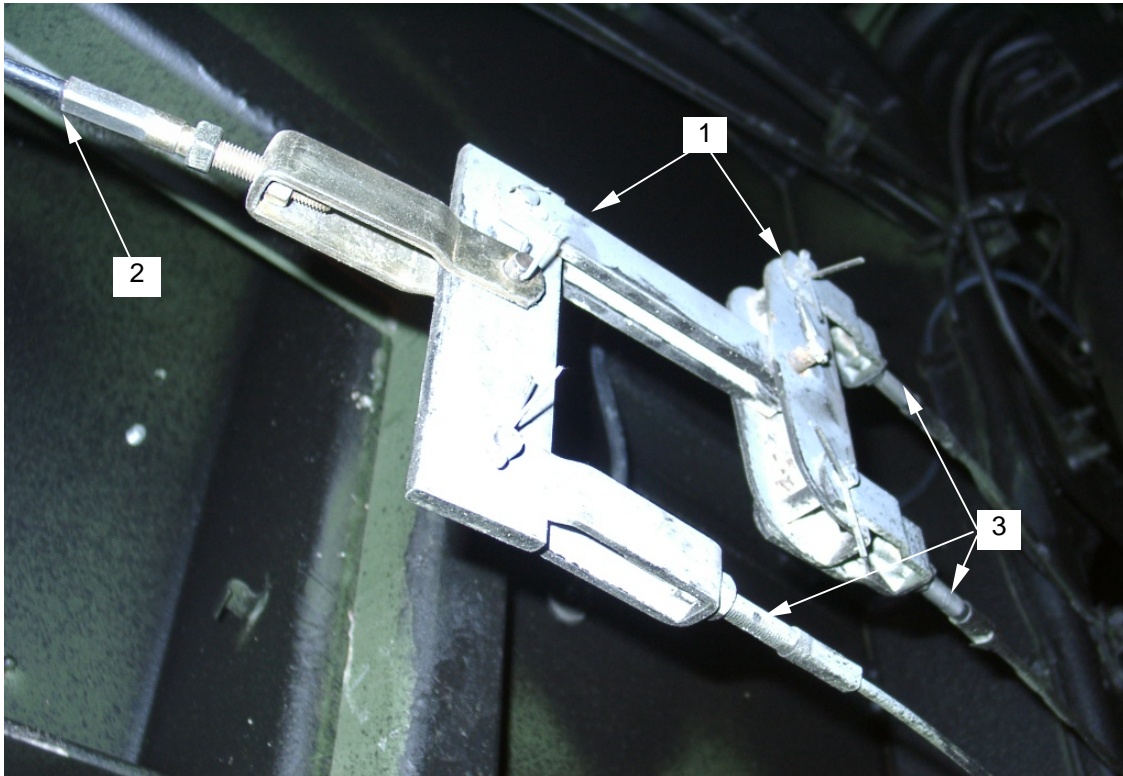

Figure 3. Individual Brake Adjustment
- a. Locate the spreader bars (**figure 3, item 1**) separating the main brake cable (**figure 3, item 2**) into three individual wheel cables (**figure 3, item 3**).
- b. Identify the individual cable (**figure 3, item 3**) requiring adjustment. Make adjustment as described under 2 b through f, above.